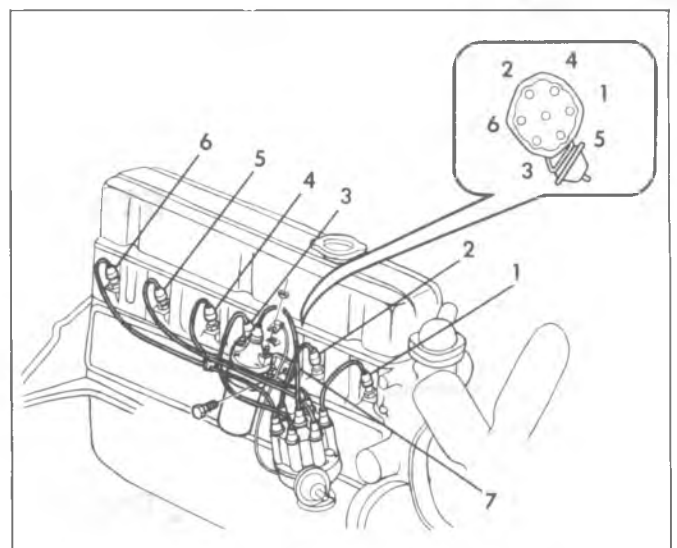

Fig. 13i—L-6 Spark Plug Wire Installation
NOTE: It is important that the spark plug wires be installed in their proper location in the supports (figs. 13i and 14i).
2. Position distributor to opening block in normal installed attitude (figs. 13i and 14i), noting position of vacuum control unit.
No. 1 spark plug wire is installed in the first distributor cap tower after the adjusting window, moving in the direction of rotation (V-8), or in the foremost tower (L-6). The other wires are then installed in a clockwise direction according to the firing order (figs. 13i and 14i).